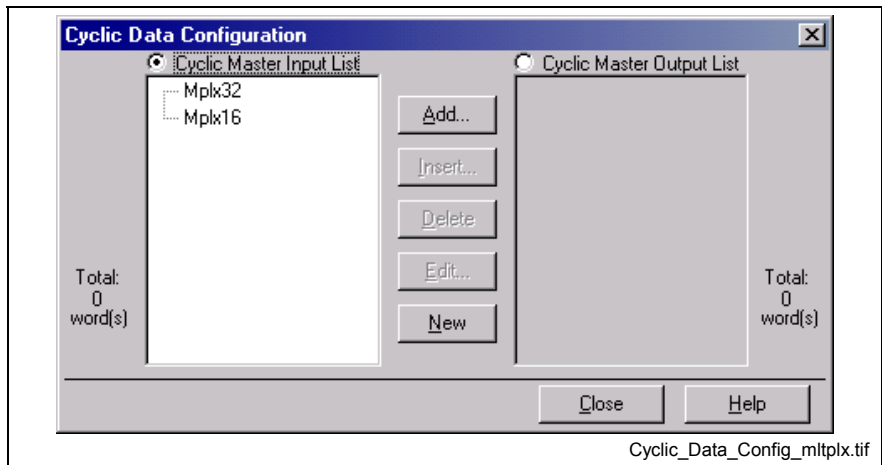

Fig. 7-167: Cyclic Data Configuration, Multiplex Containers
4. Click **O**K to add the Multiplex Container to the List. The window in Fig. 7-167 below is an example where a 16-bit Multiplex Container and a 32-Bit Multiplex Container have been added.